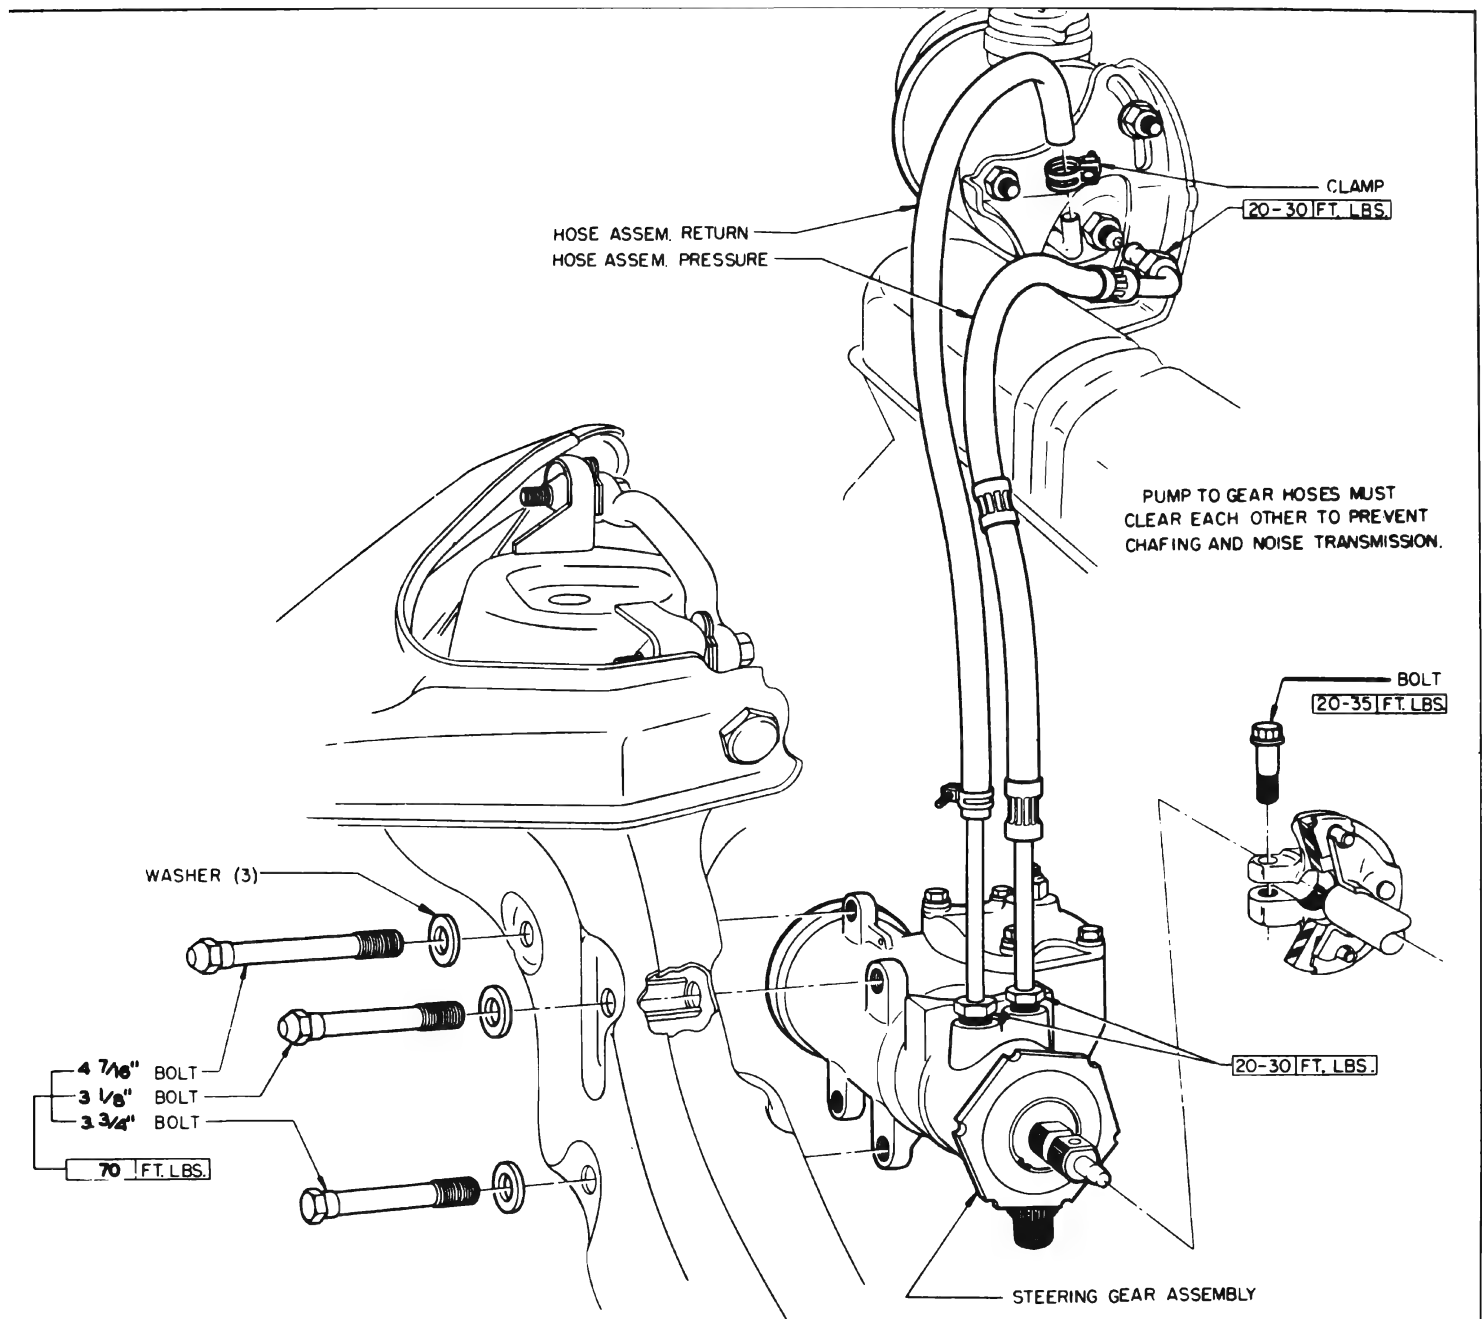

Figure 8-26—Power Steering Installation - 4400-4600-4800 Series
3. Remove pinch bolt from coupling lower flange. See Figure 8-26 or 8-27.
1. Install the gear assembly by reversing the procedure for removal. See Figure 8-26 or 8-27 for tightening specifications. Torque pitman nut to 100 ft. lbs. Torque lower coupling pinch bolt to 30 ft. lbs. Be sure there is 1/16" clearance between adjuster plug and coupling.